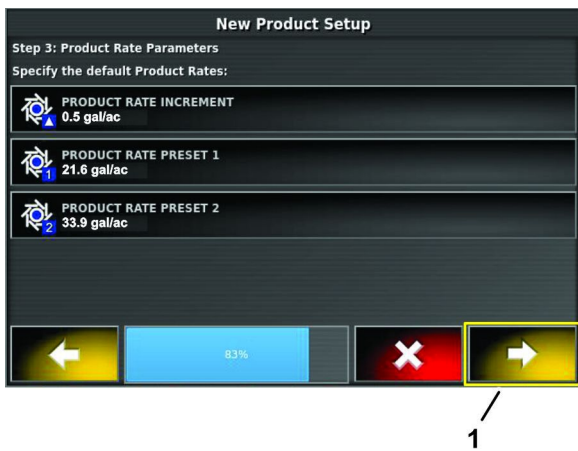

Figure 121
15. Press the next icon (Figure 121).